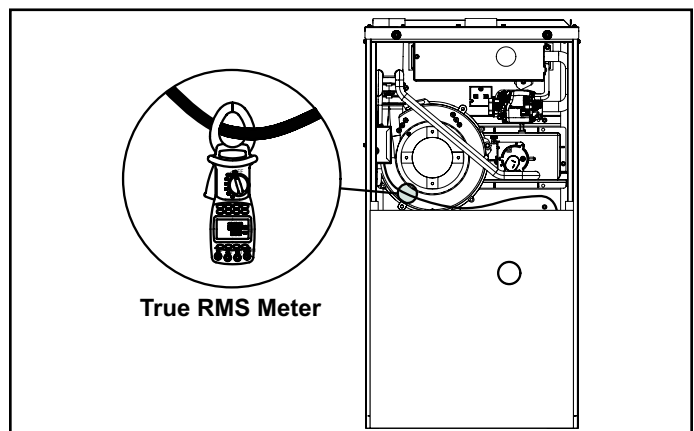

Figure 55. Check Motor Amp Draw
3. Check amp-draw using a true RMS meter on the blower motor with blower access panel in place. See Figure 55.